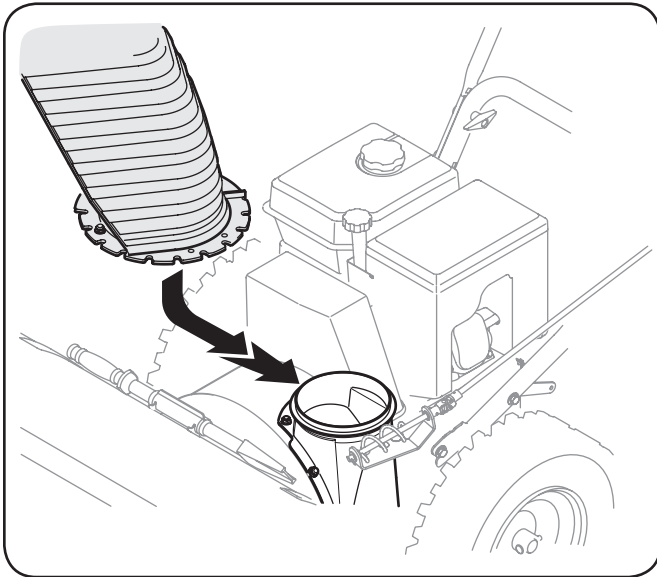

Figure 3-4
- Place chute assembly onto chute base as shown in Figure 3-4. Make sure that the chute notches engage with the spiral end of chute directional control, and the two flange keepers are beneath the flange on the chute base.